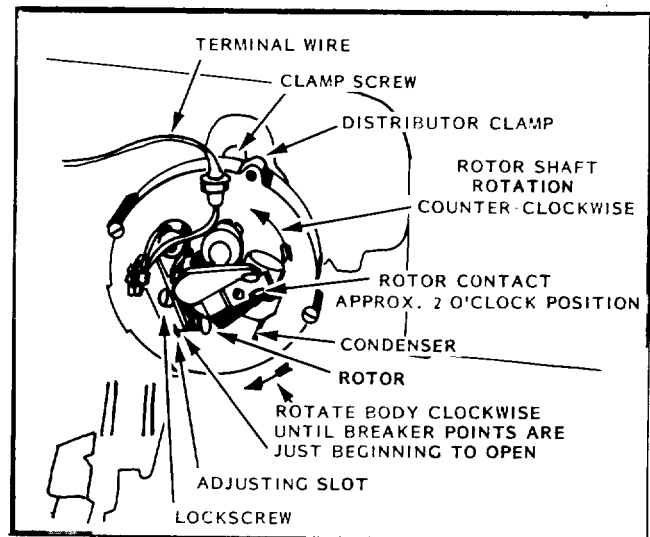
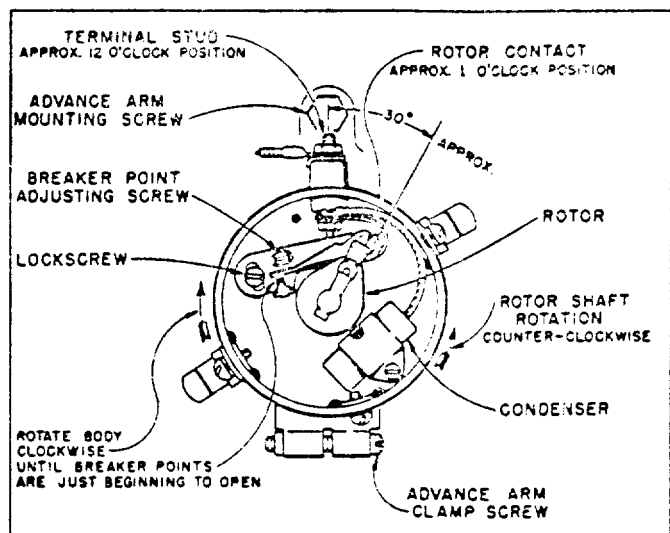

Fig. B-11 DELCO-REMY DISTRIBUTOR 313023C
Fig. B-12 PRESTOLITE DISTRIBUTOR
4. **DISTRIBUTOR TIMING:** With the No. 1 piston now on TDC of the compression stroke, refer to Fig. B-11 for the revised Delco-Remy distributor or Fig. B-12 for Prestolite, and mount distributor as follows:
- b. Hold distributor with face up and terminal wire or terminal stud, away and in a 12 o'clock position as shown. Mount rotor on shaft and turn until the rotor contact points in an approximate 2 o'clock position as illustrated in Fig B-11, or 1 o'clock position as in Fig. B-12.
- d. Mount distributor clamp to drive housing, Fig. B-11, but do not tighten screw. If applicable, as per Fig. B-12, tighten advance arm mounting screw to the drive housing.
The normal breaker point gap is **0.020 inch** at full separation and can be adjusted in the following manner, with reference to **Figs B-11 or B-12**; Turn engine over by means of the starting crank until the distributor breaker arm **rubbing block** is on a high point of the **cam**. Loosen the stationary contact **lockscrew** very slightly and insert a feeler gauge between the points. By means of a screw driver inserted into the **adjusting slot** of the **Delco-Remy** distributor or by the **adjusting screw** of the **Pestolite** distributor, open or close points as required until a slight drag is felt when sliding feeler gauge between the points. Tighten lockscrew and recheck gap.